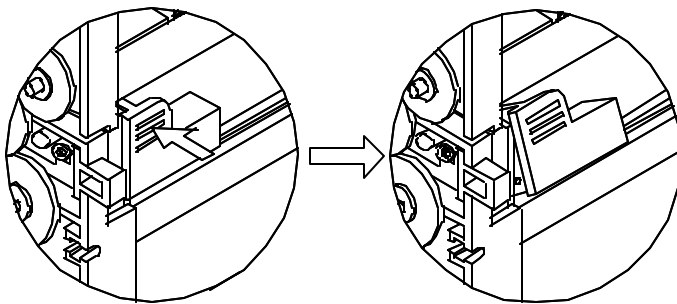

Fig. 2.5.5
14. Refer to the figure 2.5.5 to setup the strip sensor (press the top area and lift from the bottom).